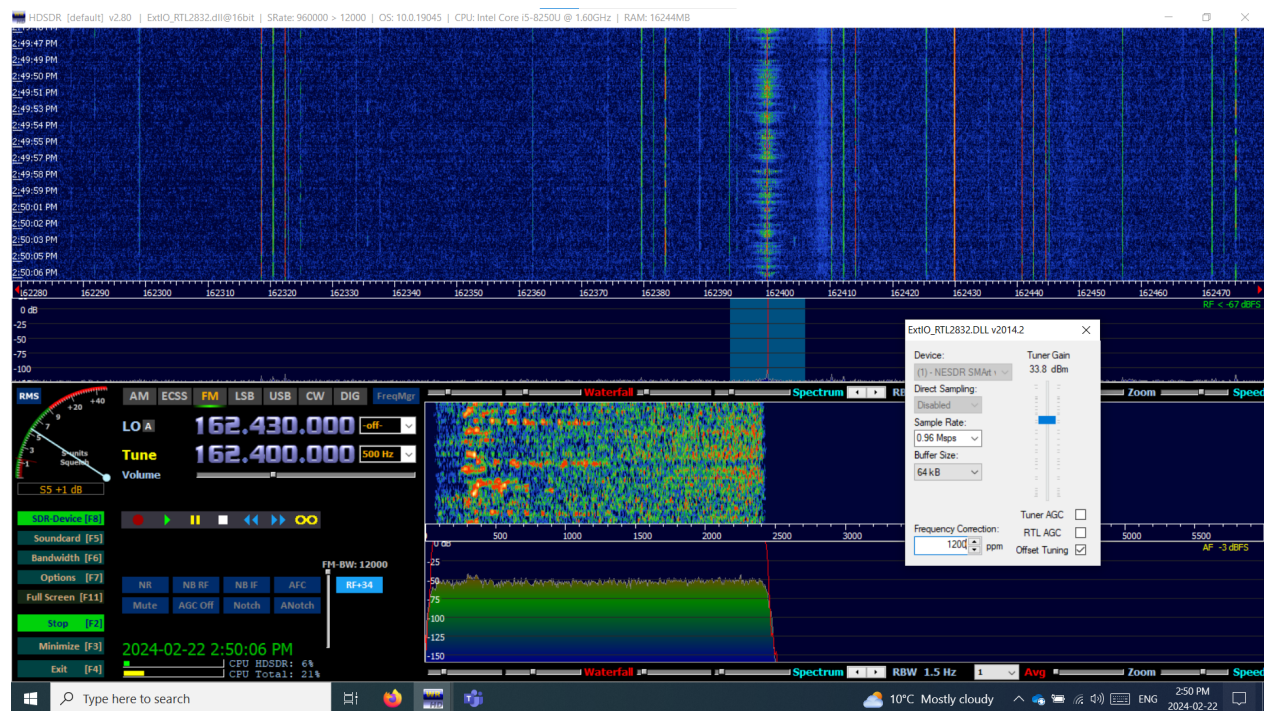

Figure 8: Main waterfall window with SDR control window
6. HDSDR will open a waterfall display similar to that shown in Figure 8. The usage of HDSDR will be demonstrated in the lab, but using the mouse you can easily control the SDR to tune in to specific frequencies. Important SDR control parameters can be specified by pressing F8 or pressing the SDR-Device [F8] button. This will reveal a small dialog box as shown in Figure 8.